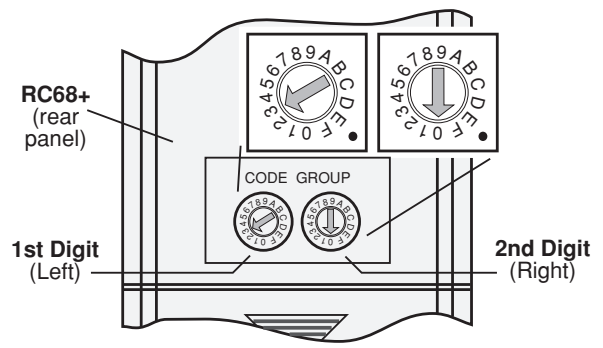

FIG. 6 Setting the code switches to the newly changed code. Refer to step 6. (30 shown for MIRV1/RAT1).
6. Test the system by rotating each of the Code Group Setting Switches on the rear of the RC68+ to the chosen code number (refer to **Fig. 6**). The Left switch is the first digit in the number and the Right one is the second digit.
Be sure to change the Code Group Setting Switches on the rear of the RC68+ (Fig. 6) to match the newly changed code number you set for each device, during the teaching process.